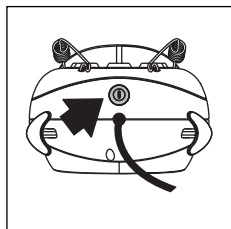
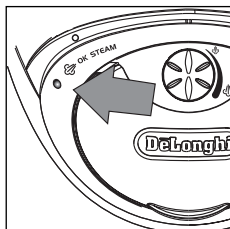

fig. 6
fig. 7
- Push the ON/OFF button to the steam generator on (fig. 6). The steam indicator light and iron temperature light will come on (fig. 7/8).